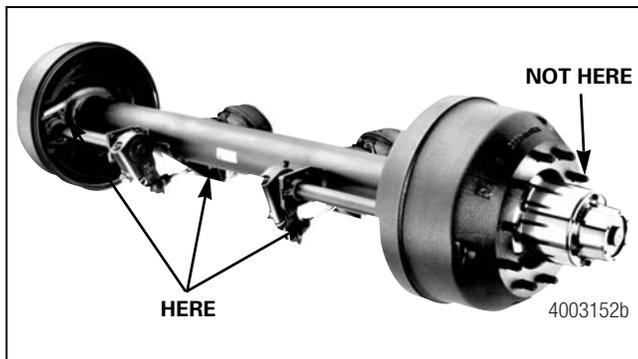

Figure 3
- Ground welding equipment to the axle through a clean, tight cable connection. Locate the connection at components that are welded to the axle, such as the camshaft bracket, air chamber bracket or brake spider. Do not locate a cable connection at a suspension spring, U-bolt or hub. Damage to the wheel bearing can occur from electric arcing. Figure 3.